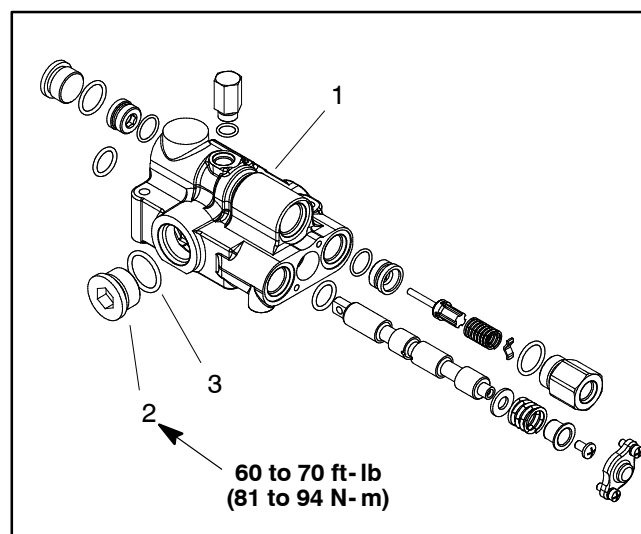

Figure 102
2. Remove two (2) screws with lock washers (item 7) that secure end cap (item 12) to control valve. Remove end cap.
3. Retain spool to prevent it from turning. Remove screw (item 5), spacer (item 13), spring (item 20) and washer (item 6) from control valve.
4. Carefully slide spool (item 8) from housing bore.
5. Carefully remove O-rings (item 4) from spool bore. Take care to not damage spool bore or O-ring cavities during O-ring removal.
6. Remove detent plug (item 16), O-ring (item 18), spring (item 17) and detent ball (item 1).
7. Remove plug (item 9) with O-ring (item 21) and lockout seat (item 22) with O-ring (item 23) from valve body.
8. Remove adapter plug (item 14) with O-ring (item 15), poppet stop (item 10), spring (item 2) and poppet (item 11) from control valve body.
9. Remove lockout seat (item 22) with O-ring (item 23) from control valve body. Remove detent plunger (item 19).
10. If necessary, remove plug from control valve (Fig. 102). **Note:** If machine is equipped with optional rear lift kit, a fitting and sleeve will be installed in place of plug.
5. Coat spacer (item 13), spring (item 20) and washer (item 6) liberally with MPG-2 (or equivalent) grease. Apply Loctite #242 (or equivalent) to threads of screw (item 5). Install washer, spring and spacer into valve and secure with screw. Retain spool to prevent it from turning and torque screw from **24 to 36 in-lb (2.7 to 4.1 N-m)**.
6. Apply Loctite #242 (or equivalent) to threads of screws (item 7).
7. Position gasket (item 3) and end cap (item 12) to control valve. Secure end cap to valve with two (2) screws with lock washers (item 7). Torque screws from **24 to 36 in-lb (2.7 to 4.1 N-m)**.
8. Lubricate detent plunger (item 19) with clean hydraulic oil and slide into control valve bore.
9. Install new O-rings (items 23) to lockout seats (items 22). Apply Loctite #242 (or equivalent) to threads of lockout seats. Install seats into control valve. Torque seats from **18 to 20 ft-lb (24 to 27 N-m)**.
10. Lubricate poppet (item 11), spring (item 2) and poppet stop (item 10) liberally with clean hydraulic fluid and install into control valve bore. Make sure that stop extends into spring coils after installation.
11. Install adapter plug (item 14) with new O-ring (item 15) and plug (item 9) with new O-ring (item 21) into control valve. Torque plugs from **35 to 40 ft-lb (47 to 54 N-m)**.
12. Install new O-ring to detent plug (item 16). Lubricate detent ball (item 1) and spring (item 17) with clean hydraulic fluid and install into detent plug.
14. If plug was removed, carefully thread plug into control valve housing (Fig. 102). Torque plug from **60 to 70 ft-lb (81 to 94 N-m)**.